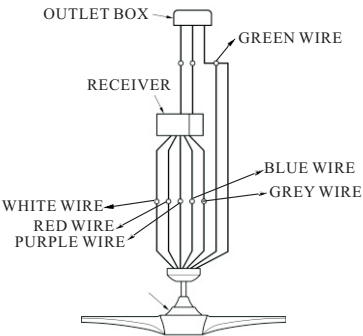

FIG.8
- 2. Connect the red wire from receiver to the red wire from fan with wire nut .Connect the purple wire from receiver to the purple wire from fan with wire nut.Connect the blue wire from receiver to the blue wire from fan with wire nut. Connect the grey wire from receiver to the grey wire from fan with wire nut. Connect the white wire from receiver to the white wire from fan with wire nut.Connect the green wire from ceiling, and green wire from hanger bracket with green wire from downrod ball with wire nut.(See fig.8)